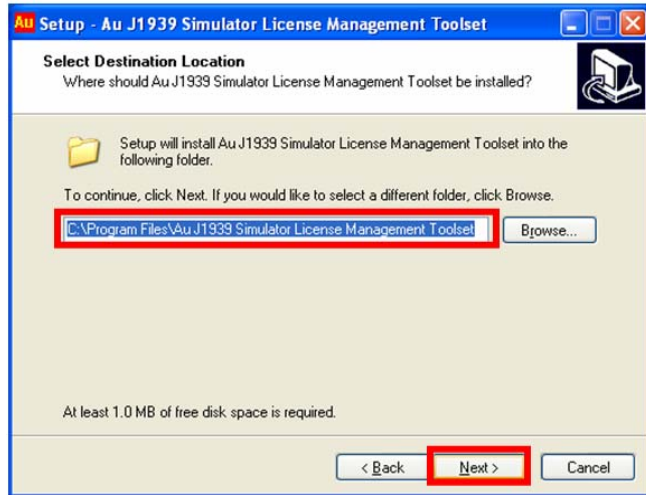

Figure B-4
4. "Select Destination" window shows up, use default: C:\Program Files\ AU J1939 Simulator License Management Toolset", then click "next" (Figure B-4).